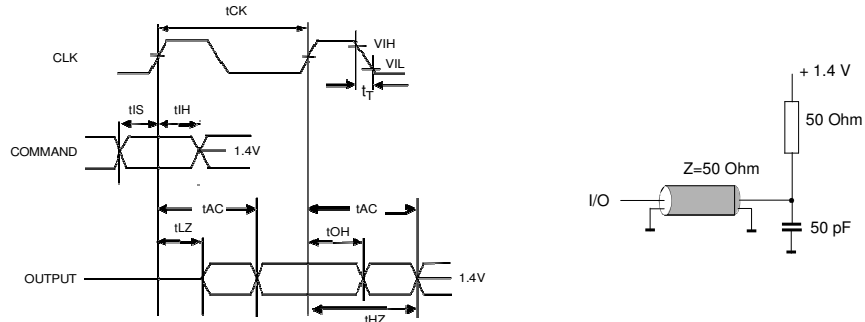

Figure 1.
2. AC timing tests have $V_{IL} = 0.4V$ and $V_{IH} = 2.4V$ with the timing referenced to the 1.4 V crossover point. The transition time is measured between V_{IH} and V_{IL} . All AC measurements assume $t_T = 1ns$ with the AC output load circuit shown in Figure 1.